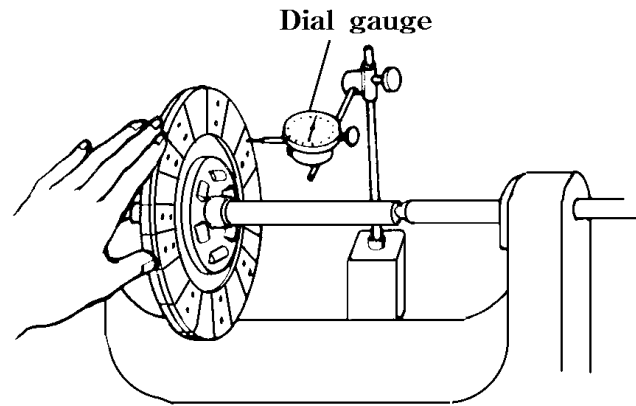

Fig.4-9
- 6) Measure the deviations of the clutch disc. If the measurements are beyond the usable limits, replace the clutch disc assembly. (Fig4-9)